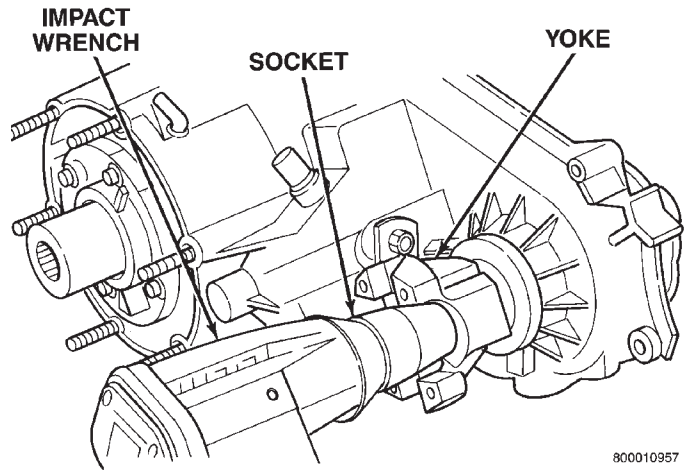

Fig. 15 Yoke Nut Removal
- (1) Remove transfer case indicator switch.
- (2) Remove front yoke nut as follows:
- (b) Then remove nut with socket and impact wrench (Fig. 15).